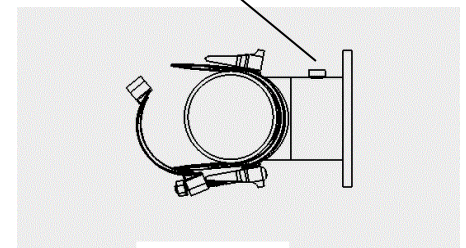
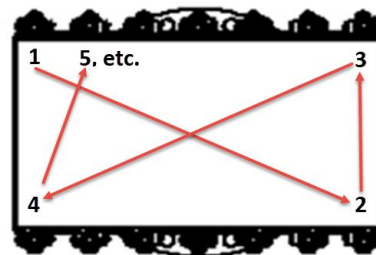

Fig. 1
Fig. 3. Tapping Sleeve Bolt Tightening Sequences/Patterns
Step 3. Per Figure 1, the lower shell on the 4", 6", and 8" sizes may be hinged away for assembly to the main pipe. Units larger than 8" require disassembly prior to installation, and cannot be hinged. The sleeve may be assembled to the pipe in the vertical position, then tuck the upper gasket edges beneath the lower shell, install bolts, and hand tighten. **Make sure that the upper gasket end tapers are laying flat against the main pipe.** Bolt heads may be oriented in either direction. Hand tighten all nuts and washers uniformly, then move sleeve to final (i.e. horizontal) position before beginning torque take-up. Sleeve must be assembled and installed in final position prior to tightening bolts to final torque. Note: Test port must be oriented in upright position to vent properly during pressure test. Tighten bolts, in a staggered pattern, per tightening patterns shown below in Fig. 3 to final torque, in two stages. First tighten to approximately 50% of final torque, then, tighten to 100% of final torque. Do not rotate assembled sleeve on conductor pipe after assembly. **After 15 minutes recheck bolt torque and continue with tapping process. Take care to insure that spanner shell gaps are even on both sides of the sleeve or else the sleeve will not seal properly.**